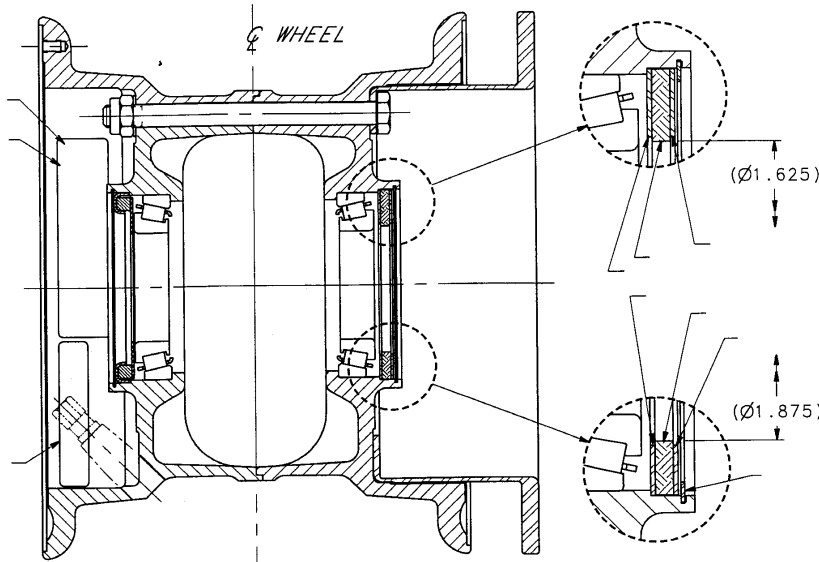

Figure 1 - Converting 40-97E Wheel Assembly to 40-97F Configuration
1. The following components must be removed from the existing P/N 40-97E Wheel Assembly and discarded: (See Figure 1 for location of components)
3. Install Grease Seal Rings P/N 153-01600 and Grease Seal Felt P/N 154-01600 on Inboard Wheel Hub as shown in Figure 1 and secure with Retaining Ring P/N 155-00100.
4. Install new nameplate P/N 166-19700 on Outboard Wheel Half as shown in Figure 1. Note: The manufacturing date code for all replacement nameplates will be coded with the current date that the nameplate is printed. Example: A nameplate that is printed in April of 1997 will be identified as Mfg. 04R97 (An "R" between the month and year indicates that this is a replacement nameplate).